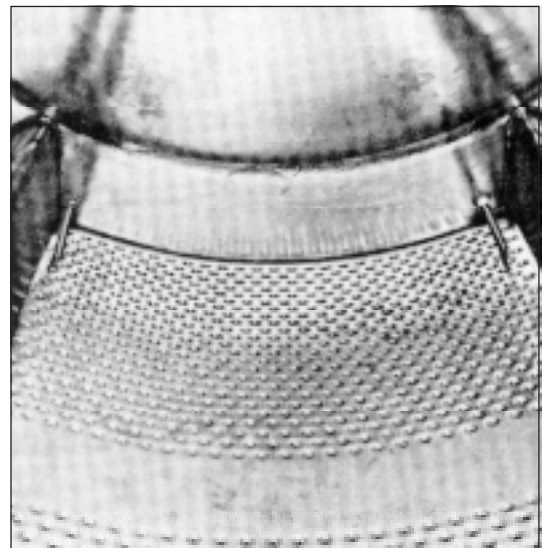

Figure 4. Installation of support screws
6. Drill four holes in the inner drum, two on the rear edge at the ridges and two on the front edge at the ridges. Thread in 4 pcs M10 support screws with locknuts. Tighten the locknuts, see figure 4.